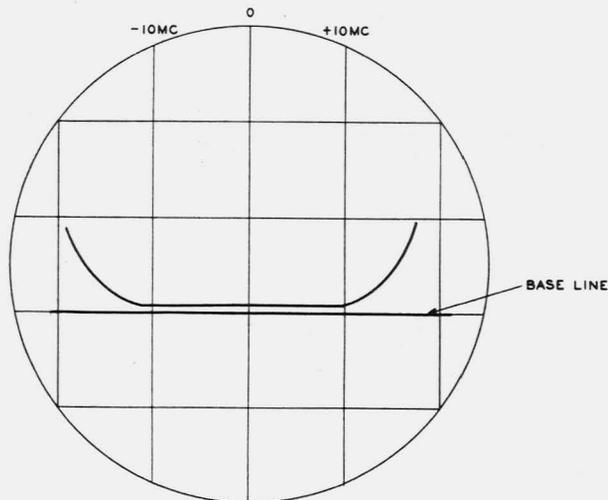

Fig. 24 - Typical Input Impedance Characteristic of Transmitter Amplifier
- (1) For an over-all amplifier follow 9.11, (1) through (6).
- (2) For an output stage, follow 9.12, (1) through (4).
- (3) For the first or second stage, follow 9.13, (1) through (4).
- (4) Disconnect output of detector No. 1, connect the output of detector No. 3 to X2, turn the input aperture tuning screw all the way clockwise, and adjust the vertical gain to make the trace separation equal 0.5 inch.
- (5) Adjust the input aperture tuning screw for minimum separation of traces and reduce AT4 to zero.
- (6) Adjust the input tuner and the input tuning screw to minimize the trace separation over the center 20 mc. A typical scope picture is shown in Fig. 24.